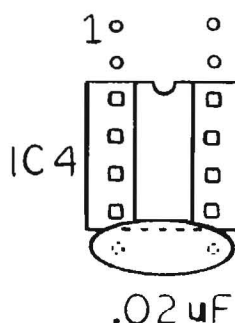

Fig. 3
5. Install the other .02uF cap in vacant holes 7 and 8 of IC4. See Figure 3, below.